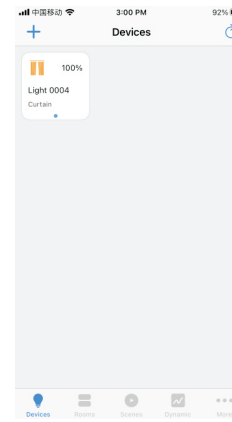

Figure 7
6. Once device is added, tap the controller's icon to enter the level control interface, then you can control it through the APP. (as shown in **Figure 7 & Figure 8**)